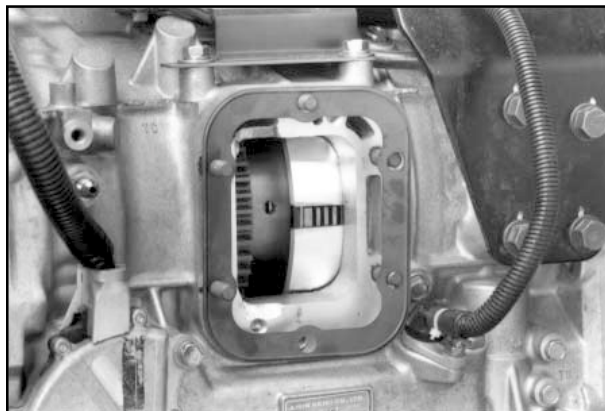

Figure 9
10. Slide the gasket (35-P-41) into position on the transmission opening over the studs (**Figure 9**). This is a controlled compression gasket and is used to eliminate the setting of gear backlash between the P.T.O. and transmission.